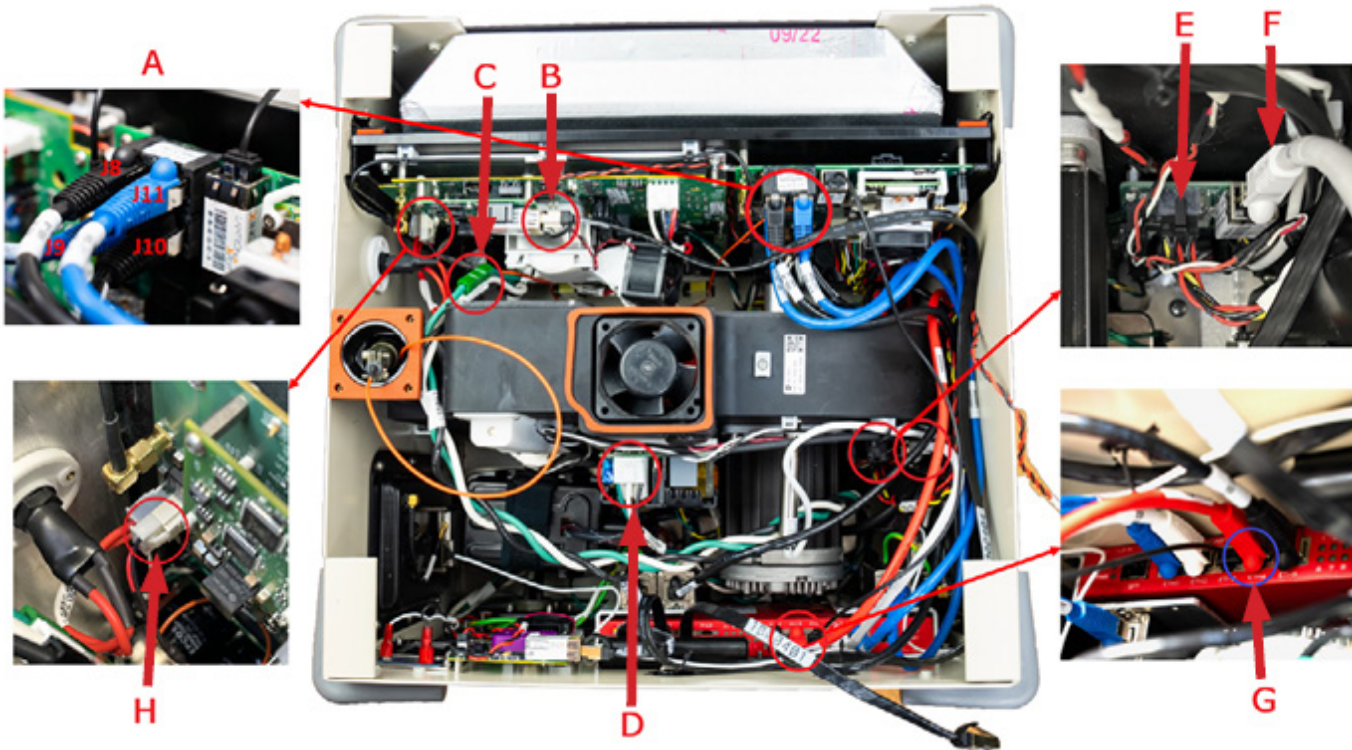

Figure 44: Tether Reel Connections
- Disconnect the four Ethernet Connectors from the TK Motherboard J8, J9, J10, and J11 (**Figure 44, A**)
- Disconnect IPS Ethernet (**Figure 44, B**)
- Disconnect AC Power (**Figure 44, C**)
- Disconnect 48V supply power (**Figure 44, D**)
- Disconnect Reel to motherboard (**Figure 44, E**)
- Disconnect Reel Ethernet (**Figure 44, F**)
- Disconnect PI router Ethernet (**Figure 44, G**)
- Disconnect HV connector (**Figure 44, H**)